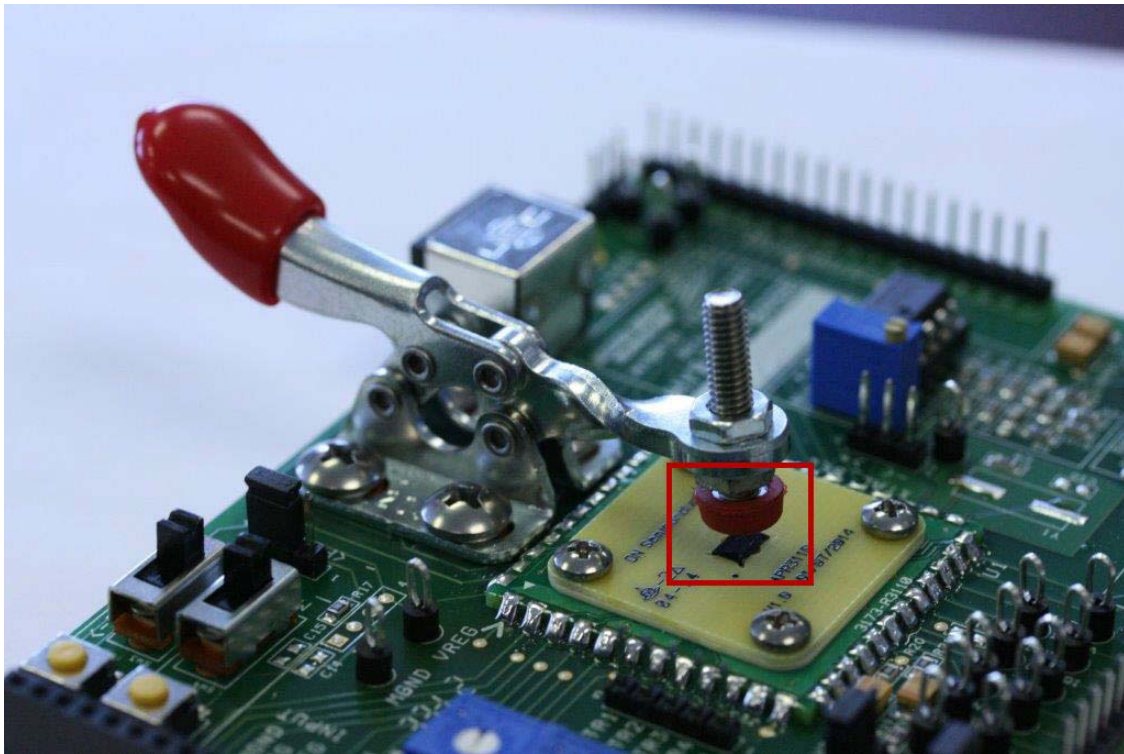

Figure 32. Aligning the Clamp with the Adaptor Plate
1. Ensure that the rubber plunger sits flush with the top of the yellow adaptor plate near the end of the range of motion of the clamp. The R3110 socket is shown in Figure 32 with the R3110 aperture plate.